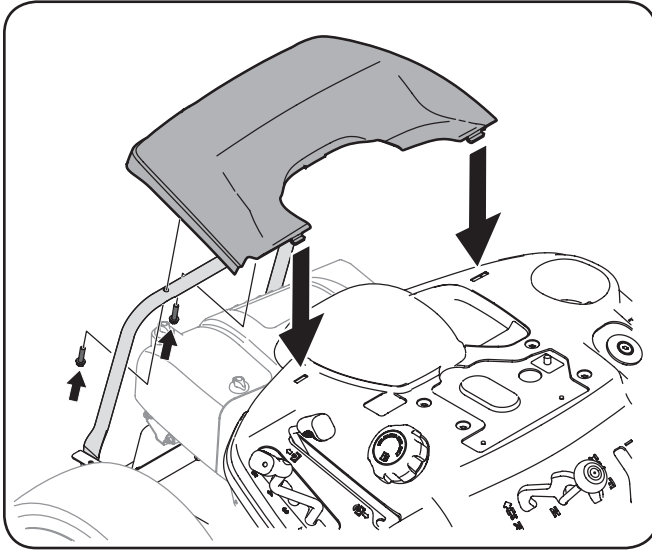

Figure 3-10
4. Remove the two factory installed hex screws located on the rear engine cover. Retain the screws for later instructions. See Figure 3-10.